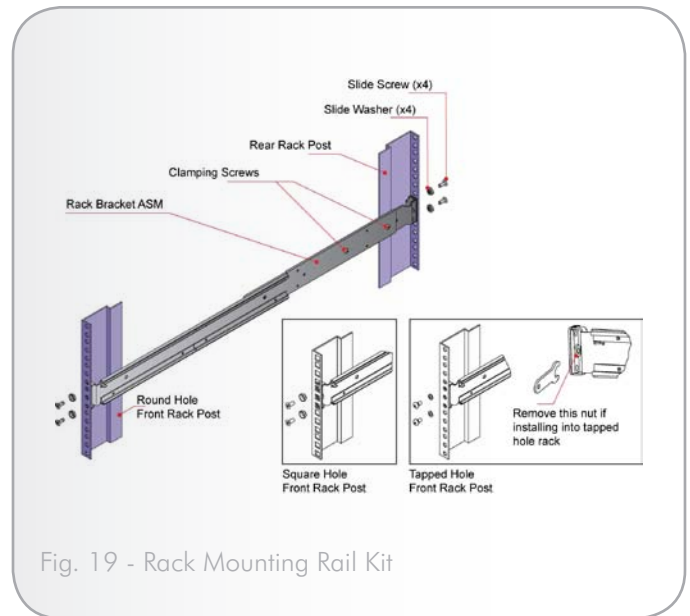

Fig. 19 - Rack Mounting Rail Kit
- d. Tighten the two clamping screws located along the inside of the rear section of the rack bracket (see Fig. 19).